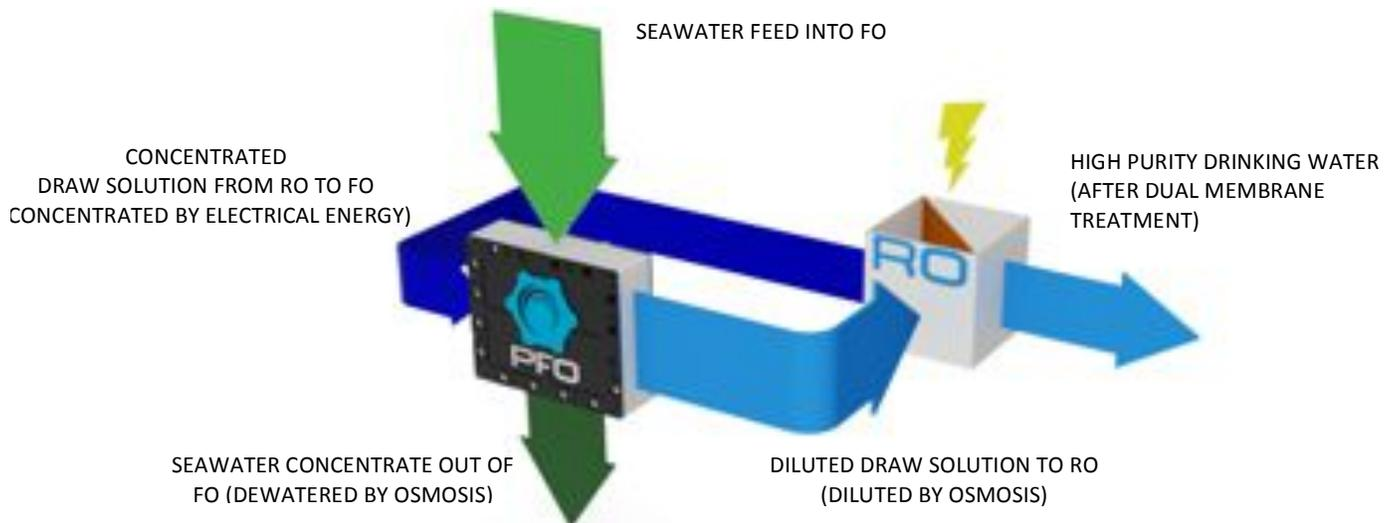
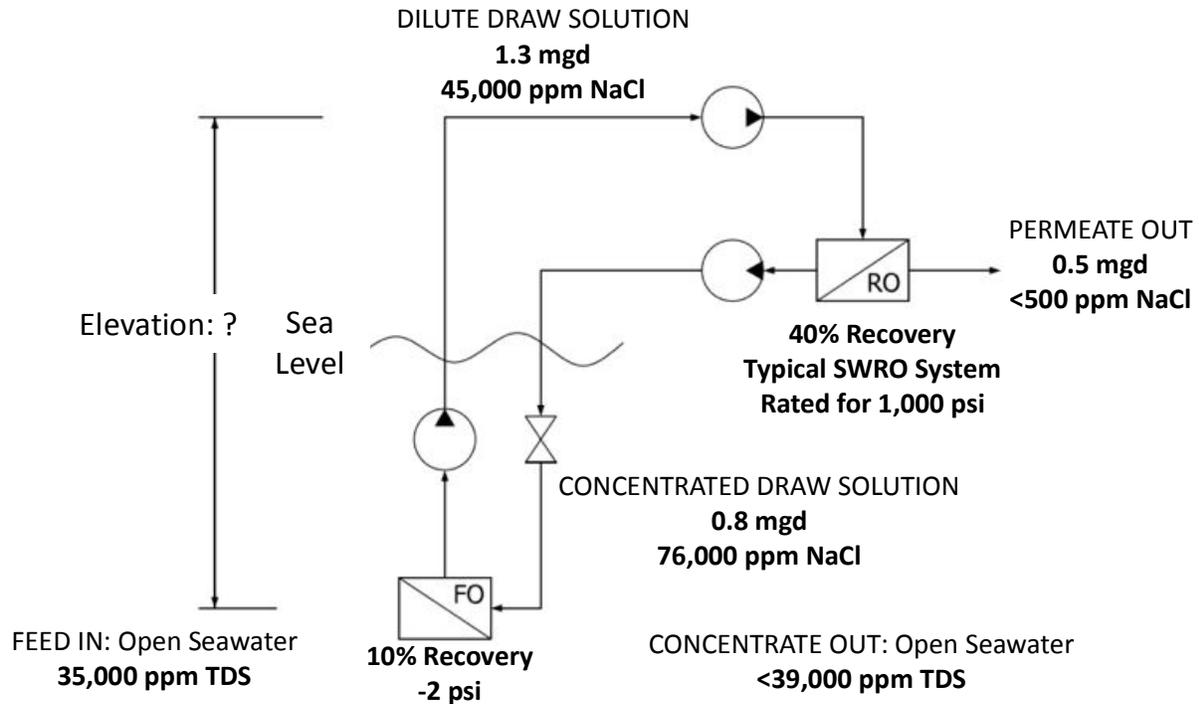

Figure 2. FO+RO Treatment Process Simplified Schematic
Figure 3. FO+RO Process Flow Diagram
The first proposed option is to use submersible forward osmosis (FO) elements as the combined intake/pre-treatment for SWRO desalination. The intent of this design is to provide balanced reductions in capital cost (CAPEX), annual operating cost (OPEX), and energy use. The following subsections summarize advantages and challenges with this approach. **Figure 2** illustrates this process in graphic form to visualize how this process works. **Figure 3** provides process flow rates, salinities, and recovery rates for reference.